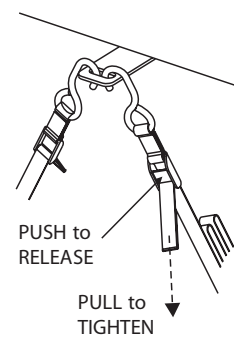

Figure 3-10
2. Pull the loose end of each restraint tight. To release, simply press the release tab and remove the hooks. *See Figure 3-10.*